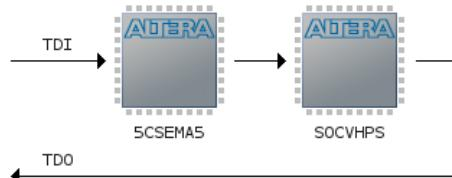

Figure 8-18. JTAG Scan Chain
You should now see 2 devices on the JTAG scan chain, as shown in Figure 8-18.
38. Right-click on the “5CSEMA5” device shown in Figure 8-18 and choose “Edit > Change File”. Then, select “DE1_SoC_demo/RTL/quartus/output_files/DE1_SoC_demo.sof” through the file browser.